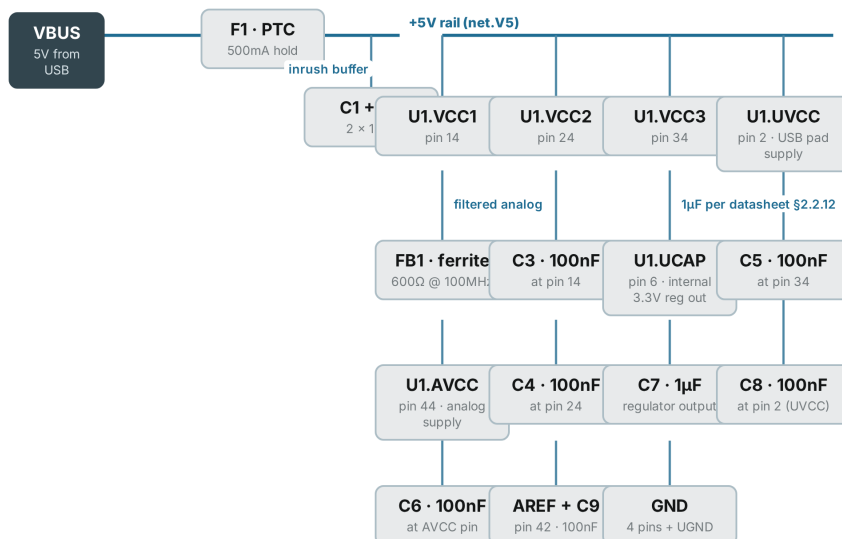

Figure 4-1 — The +5V distribution tree. Every leaf has its own local capacitor; the analog branch is isolated behind a ferrite bead.
Finally, the grounds. Four GND pins (15, 23, 35, 43) plus UGND (5) all tie to the same ground net — on the PCB they should reach a solid, uninterrupted ground pour on the bottom layer. The USB shell tabs are soldered to that same ground for shielding. On a 2-layer board the ground pour is not optional decoration; it is the return path for every signal in Figure 4-1, and cutting it with a careless trace is the classic first-board failure.